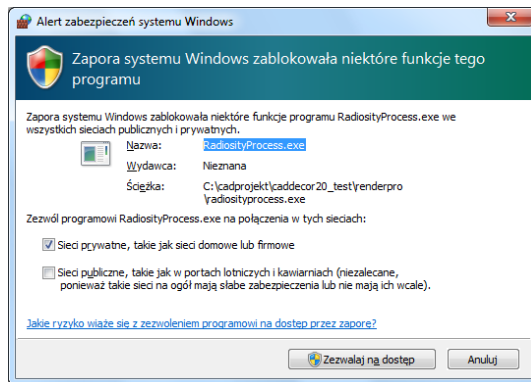

Fig. 263 – the dialog box blocking the Radiosity calculations
*Note! When the program is run for the first time it may happen that the RadiosityProcess.exe will be blocked. The dialog box presented below (Fig. 263) will open – to be able to use the program click Unblock. Otherwise no Global Illumination calculations will be performed. Sometimes after the Windows system update it is necessary to select the Unblock option again.*